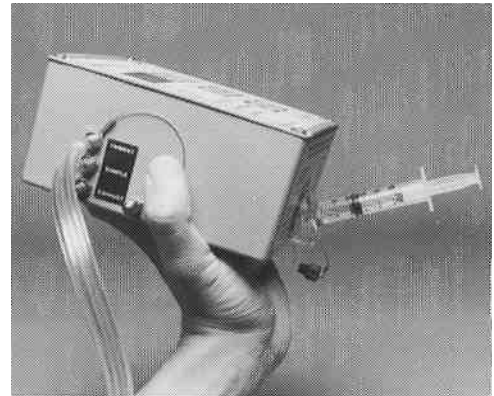

Figure I-12. Inserting the syringe
- Step 4.** Insert the end of the syringe into the alcohol fill port on the PORTACOUNT. Make sure the syringe is inserted at the correct angle. The syringe will remain in place without support if the angle is correct (fig. I-12).